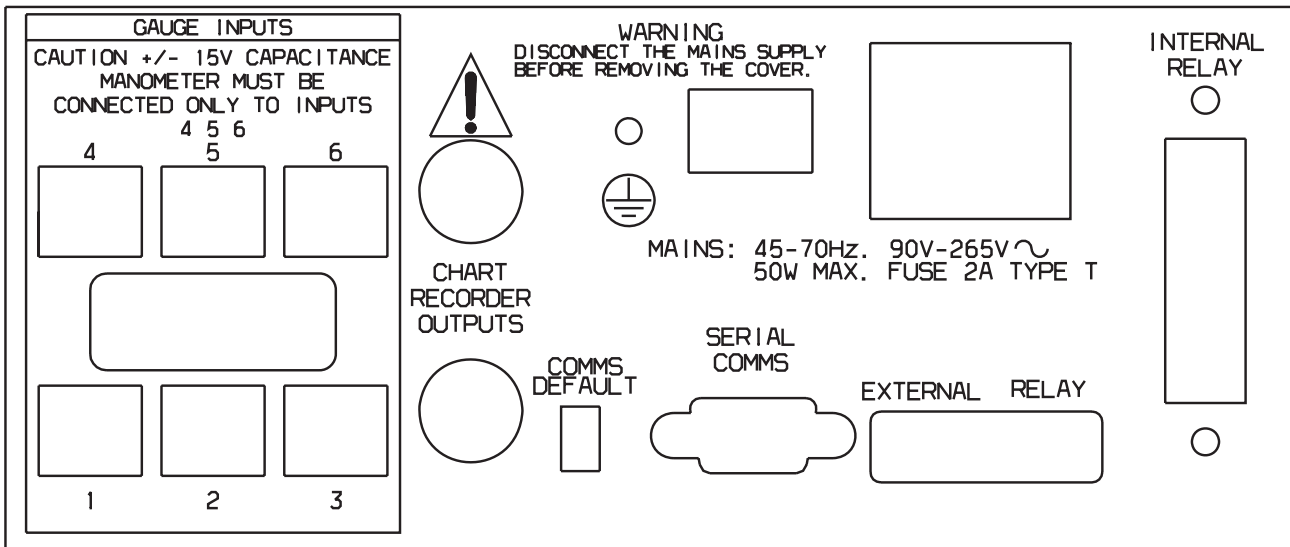

Figure 2b - Rear panel (Capacitance Manometer version)
*Note: The caution label on Figure 2b has been modified to incorporate the Capacitance Manometer version only.*